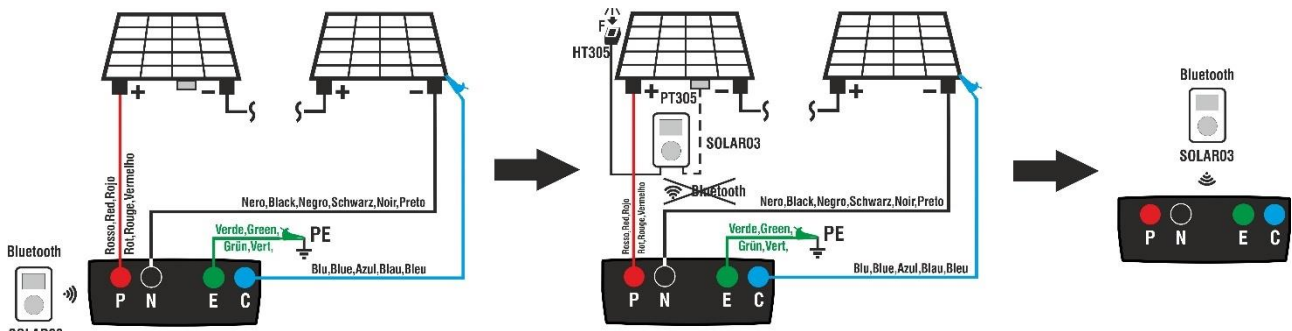
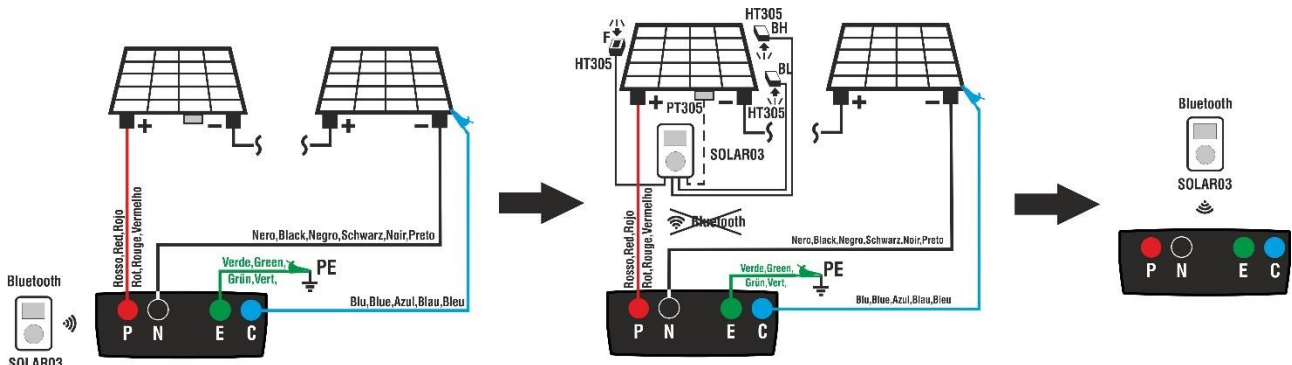

Fig. 12: Connection of SOLAR03 in synchronous recording on Mono-facial PV modules
Fig. 13: Connection of SOLAR03 in synchronous recording on Bifacial PV modules
1. Connect the instrument to the PV module/string being tested and to the main earth node of the system, and to the metal masses connected to earth as shown in Fig. 12 (Mono-facial modules) or Fig. 13 (Bifacial modules) In detail:
3. Move the SOLAR03 remote unit close to the instrument as shown in Fig. 12 or Fig. 13 – left side part
6. Move the remote unit close the modules and connect the irradiance/temperature probes as shown Fig. 12 or Fig. 13 – middle side part. **Since recording has already been activated on remote unit SOLAR03, it is not necessary to maintain the Bluetooth connection anymore.** Maintaining the connection (if possible) will only allow to immediately obtain the outcome of the test without waiting for the measuring campaign to be completed.
16. Once testing has ended, disconnect the remote unit SOLAR03, move it back close to the instrument (see Fig. 12 or Fig. 13 – right side part) and check that the connection to the instrument is active again (symbol “” on **and steady** on the remote unit’s display).